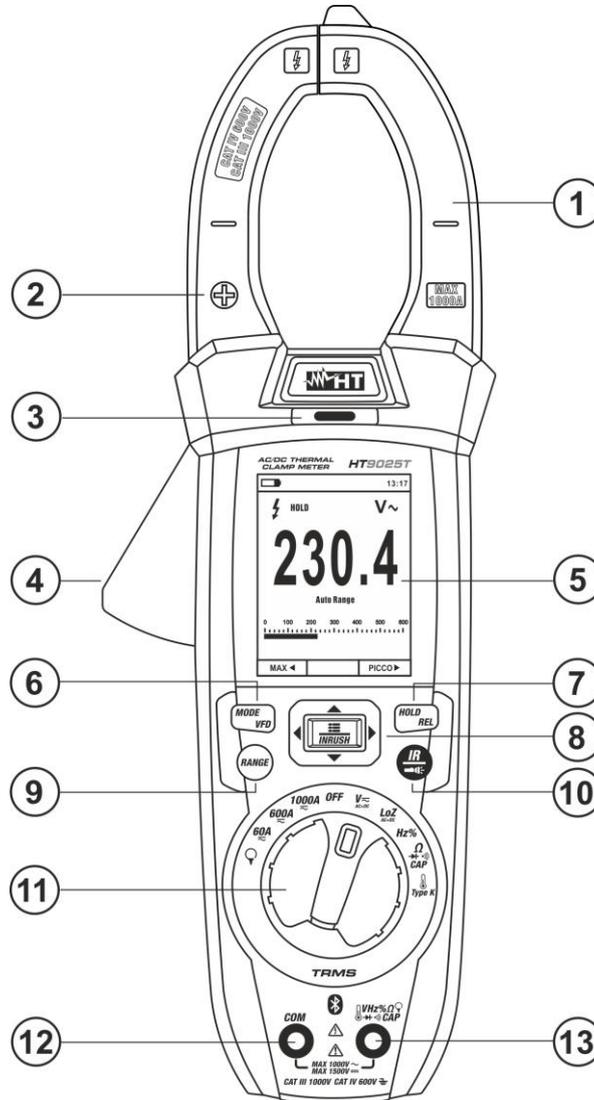

Fig. 1 Description of the instrument's front
2. Take the instrument near an AC source and look for the red LED on the top to turn on (see Fig. 1 – part 3); this indicates that the instrument has detected the source's presence